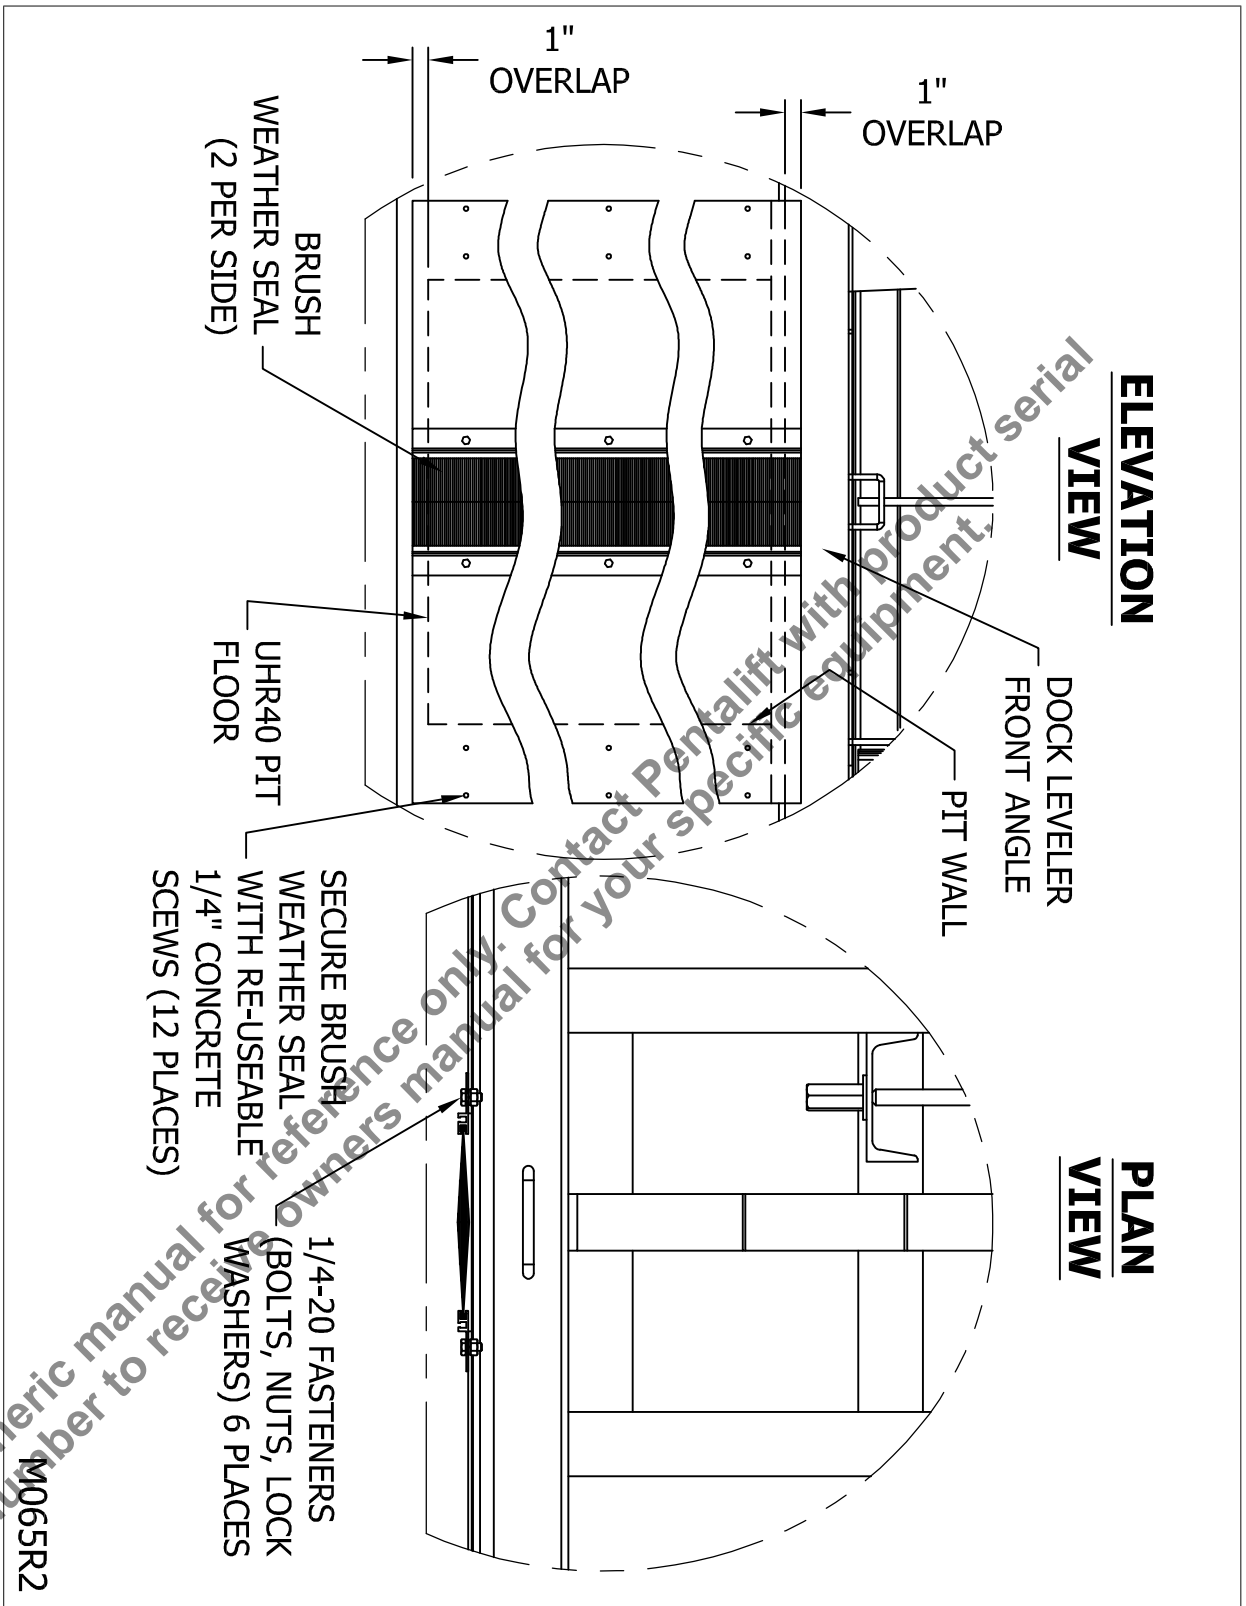

Figure 5: Mounting the Brush Weather Seal
7. \_\_\_ If these indicators are not lit as per step (6), check all connections before proceeding to ADJUSTMENTS AND TESTING on page 14.
9. \_\_\_ Trim the height of the brush weather seal assemblies so that they overlap the 2” step at the bottom front of the restraint by 1” and the dock leveler front angle by approximately 1”. Ensure that the two halves of the brush weather seal assemblies meet at the center of the pit opening. Fasten brush weather seal assemblies to the dock face using 1/4 concrete screws of the type that are removable and re-useable (see Figure 5: Mounting the Brush Weather Seal on page 9). Note: If the trimming operation removes some bolt holes and fasteners, then the cover plate and brush weather seal carrier may need to be re-drilled. This will depend on how much material is removed from the brush weather seal assemblies to suit restraint vertical opening and dock height.